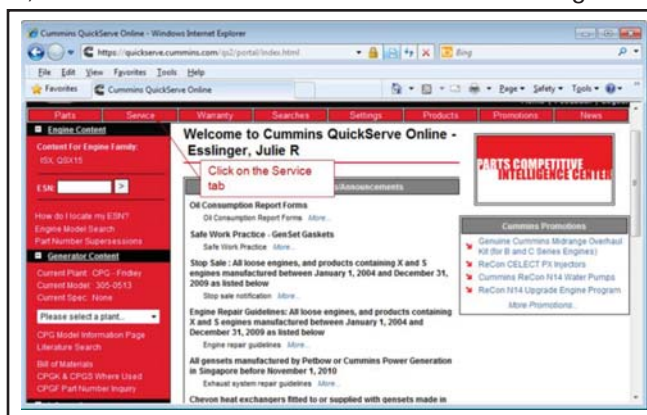

Figure 2 - Click on the Service Tab
- 1.2. Click on the service tab, then click on Related Information Tab. See Figure 2.